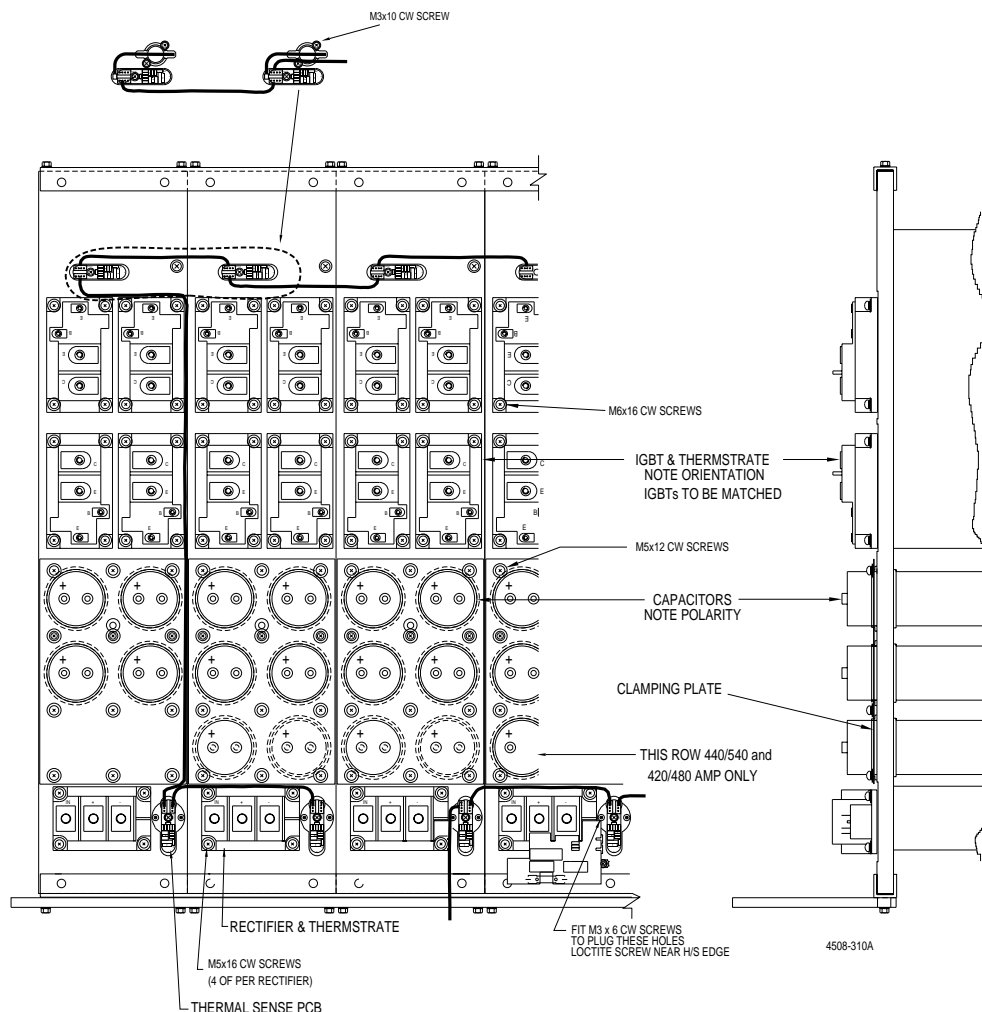

Figure 6.15: Frame 6 IGBT, Capacitors and SCR Level
- 1) To remove the capacitors, undo 15 off M5 x 12 Phillips screws. See figure 6.15.